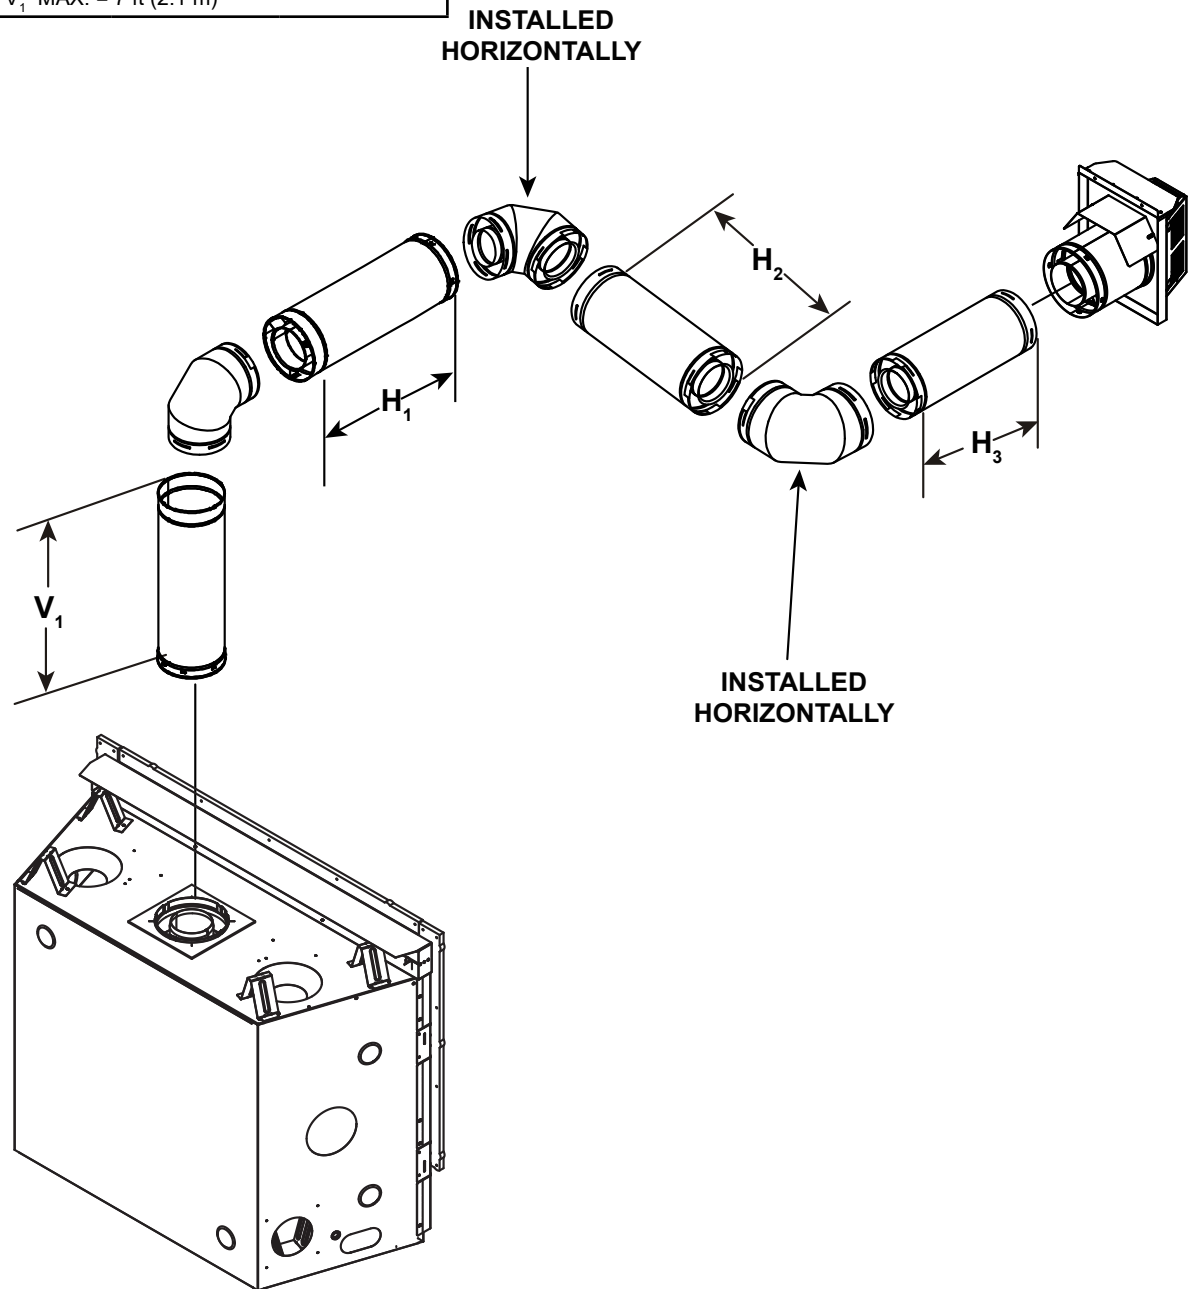

Figure 4.15
- A maximum of three 90° elbows (or six 45° elbows) may be used in any vent configuration unless configured as shown in Figure 4.20 which allows four elbows. Some elbows may be installed horizontally. See Figure 4.15.